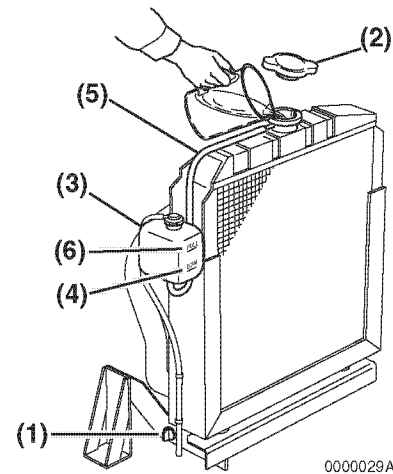
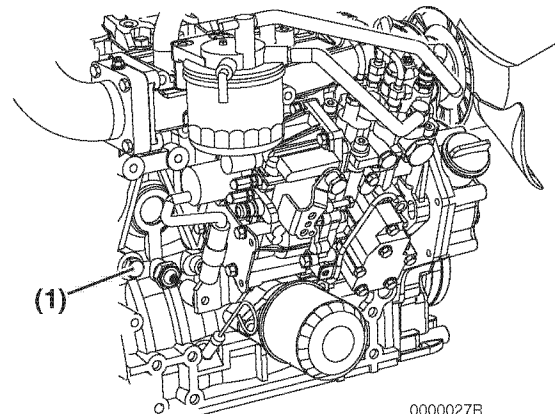
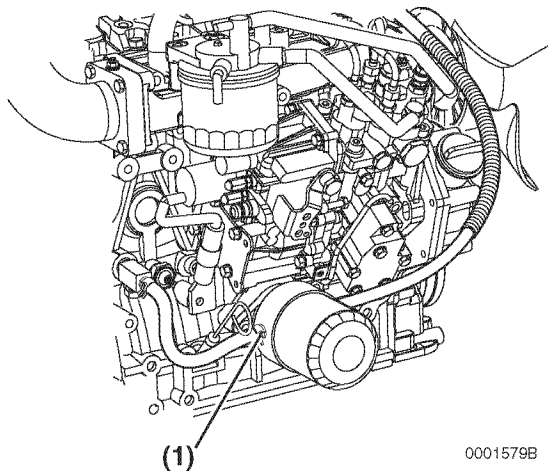

Figure 5
Figure 6
Figure 7
1. Check to be sure the radiator drain plug is installed and tightened or the drain cock (Figure 5, (1)) is closed. Also make sure the coolant drain plug (Figure 6, (1)) in the cylinder block is closed and the coolant hoses (Figure 7, (1)) are installed at the oil cooler.
2. Remove the radiator cap (**Figure 5, (2)**) by turning it counterclockwise about 1/3 of a turn.
4. Reinstall the radiator cap (**Figure 5, (2)**). Align the tabs on the back side of the radiator cap with the notches on the engine coolant filler port. Press down and turn the cap clockwise about 1/3 of a turn.
5. Remove the cap of the reserve tank (**Figure 5, (3)**), and fill it to the LOW (COLD) mark (**Figure 5, (4)**) with engine coolant. Reinstall the cap.
6. Check the hose (**Figure 5, (5)**) that connects the reserve tank (**Figure 5, (3)**) to the radiator. Be sure it is securely connected and there are no cracks or damage. If the hose is damaged, engine coolant will leak out instead of going into the reserve tank.
7. Run the engine until it reaches operating temperature. Check the level of engine coolant in the reserve tank. When the engine is running and the engine coolant is at normal temperature, the coolant level in the reserve tank should be at or near the FULL (HOT) mark (**Figure 5, (6)**). If the coolant is not at the FULL (HOT) mark, add coolant to the reserve tank to bring the coolant level to the FULL (HOT) mark.
1. Check the level of engine coolant in the reserve tank. When the engine is cold, the coolant level in the tank should be at or slightly above the LOW (COLD) mark (**Figure 5, (4)**) on the coolant reserve tank.
If the coolant level is at the FULL (HOT) mark (**Figure 5, (6)**) when the engine is cold, the coolant will expand when it becomes hot and possibly spray out of the overflow hose.